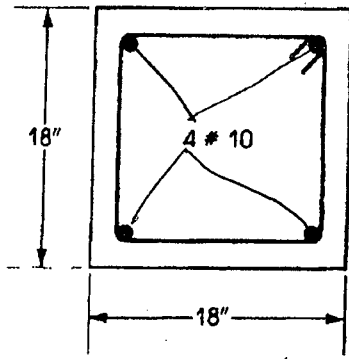

Figure 5
- (b) For the column section shown in Figure 5, draw the strength interaction diagram with five points corresponding to balanced failure, pure axial load, pure bending, tension failure, and compression failure. (25)